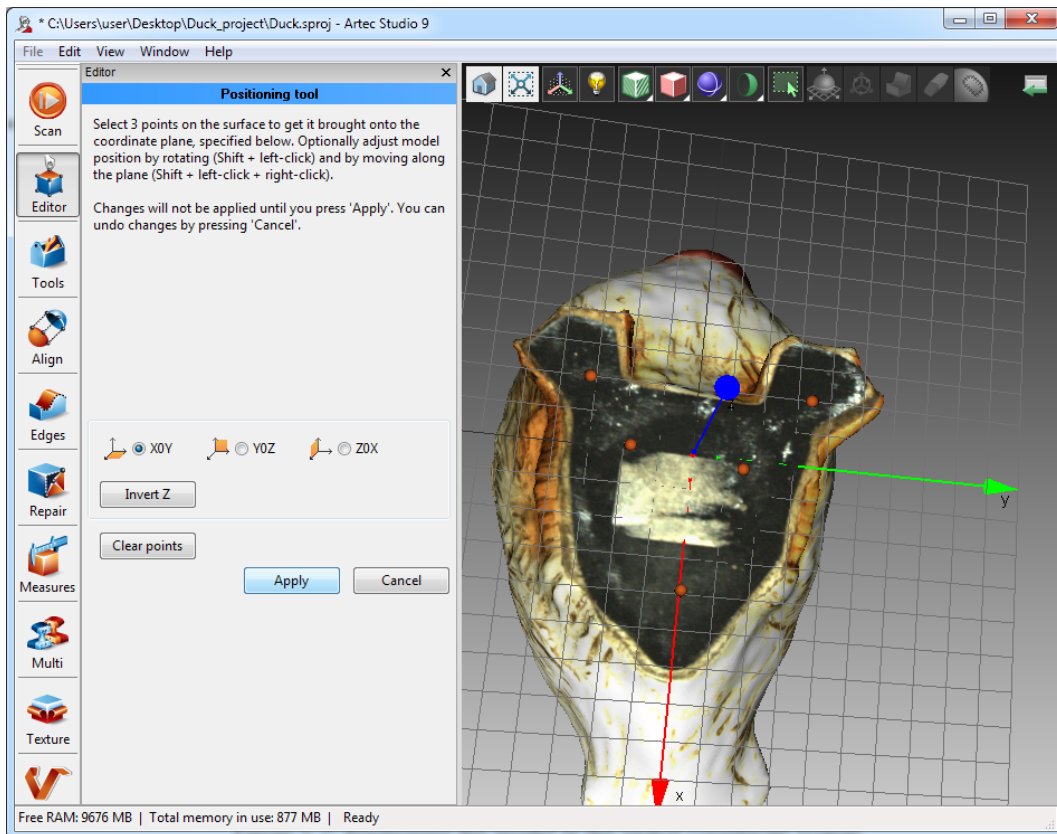

Figure 5.8: Positioning the model in the global coordinate system
3. Specify with **LMB** at least three points on the surface, the plane automatically passes through their center of mass (figure 5.8). At that the following conditions are met: